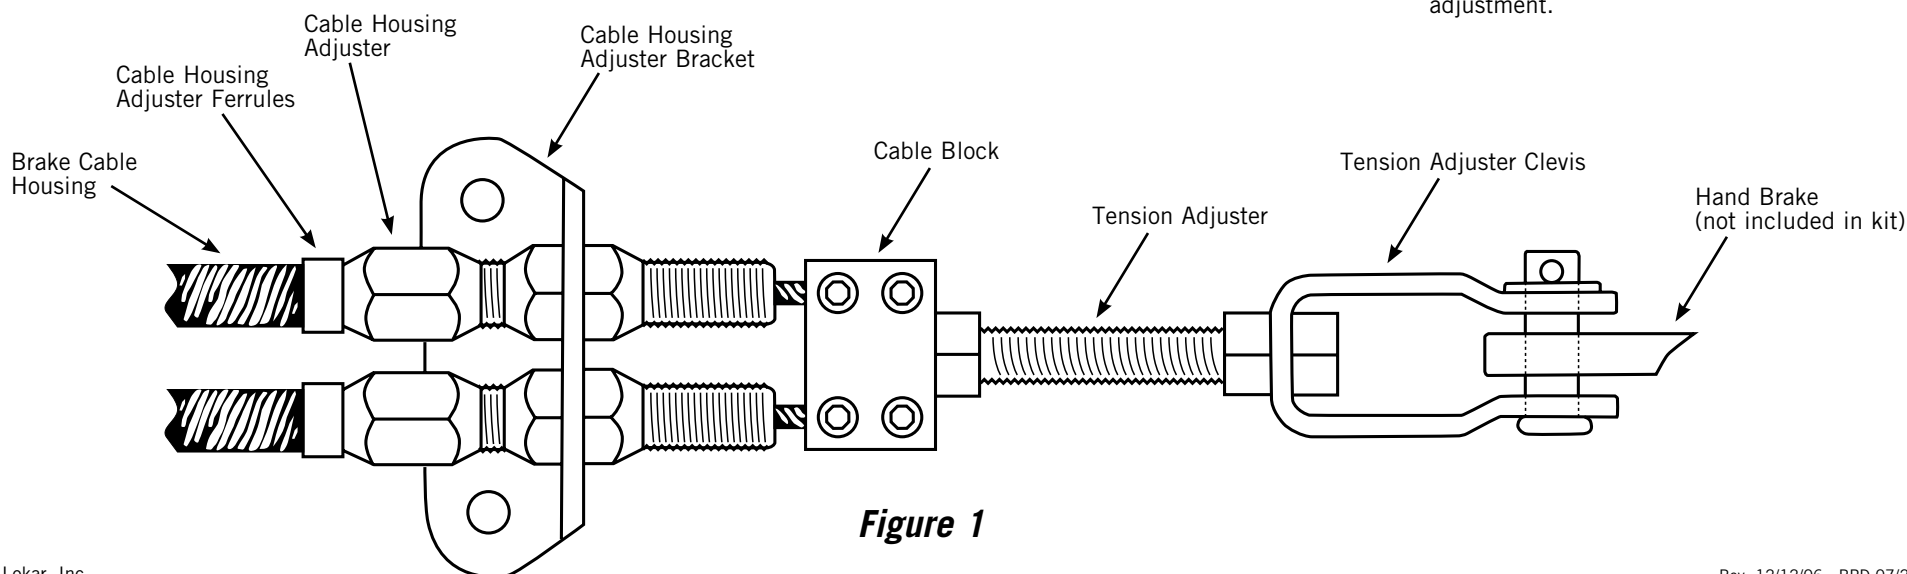

Figure 1
Step 2: Install the cable adjuster bracket on a surface that will allow the cables to be pulled straight (from the adjusters to the cable junction block and hand brake clevis - the distance between the adjusters and the cable junction block can be positioned where desired). **See Figure 1.**
Step 5: Feed springs onto inner wire and install from backing plates. Set adjuster about three-quarters of the way in and feed inner cable to cable junction block and set setscrews. **See Figure 1.**